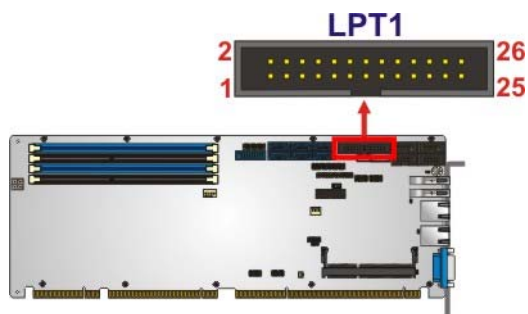

Figure 3-17: Parallel Port Connector Location
- CN Location:** See **Figure 3-17**